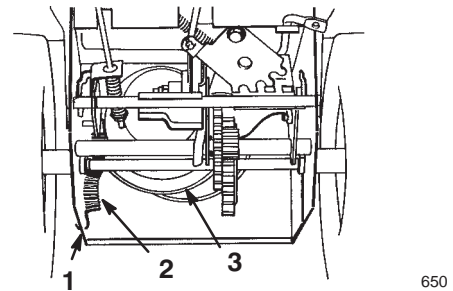

Figure 27
9. Disconnect the spring from the notch in the bottom edge of the side plate (Fig. 27).
15. Hook the spring into the notch in the bottom edge of the side plate (Fig. 27).